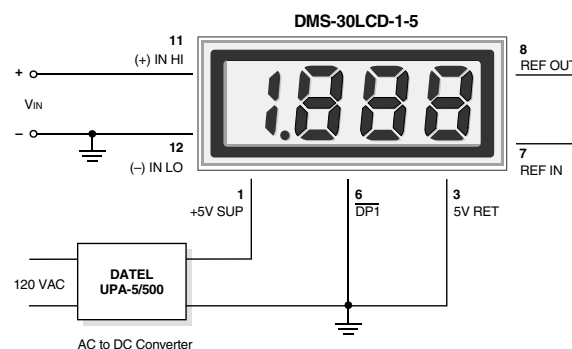

Figure 2. Single-Ended Input Configuration
1. Single-Ended Input Configurations: True single-ended measurements can only be made with 5V-powered meters. The circuit of Figure 2 avoids problems normally associated with ground-loop currents. Separate ground runs should be used for 5V RETURN (pin 3) and (-) INPUT LO (pin 12).